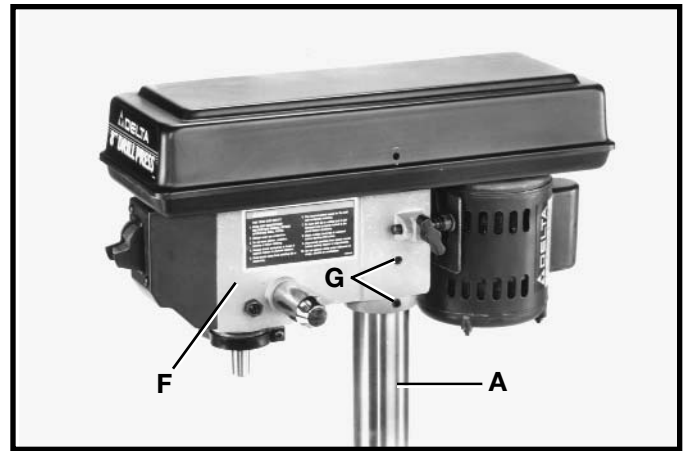

Fig. 7
4. Place the drill press head (F) Fig. 7, onto the column (A) as far as it will go. Align head to table and base and tighten the two head locking screws (G) with wrench supplied.